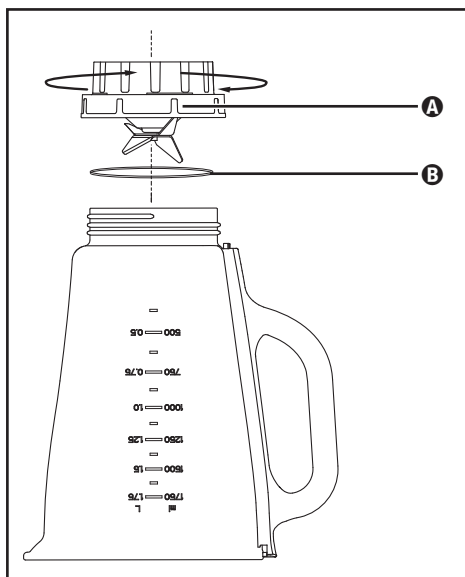

Fig. 3
- 2) Turn the appliance upside down and turn the attachment ① with the cutting blades ④ anticlockwise so that it can be detached from the blender jug ③ (see fig. 3).